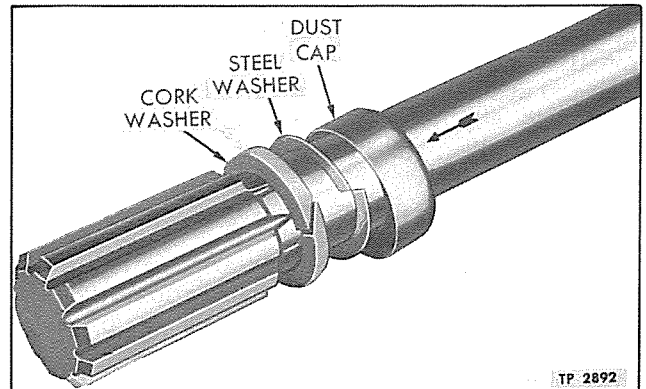

Figure 3—Propeller Shaft With Slip Joint Removed
2. Install dust cap, cork washer and steel washer, on slip joint end of shaft (fig. 3). When